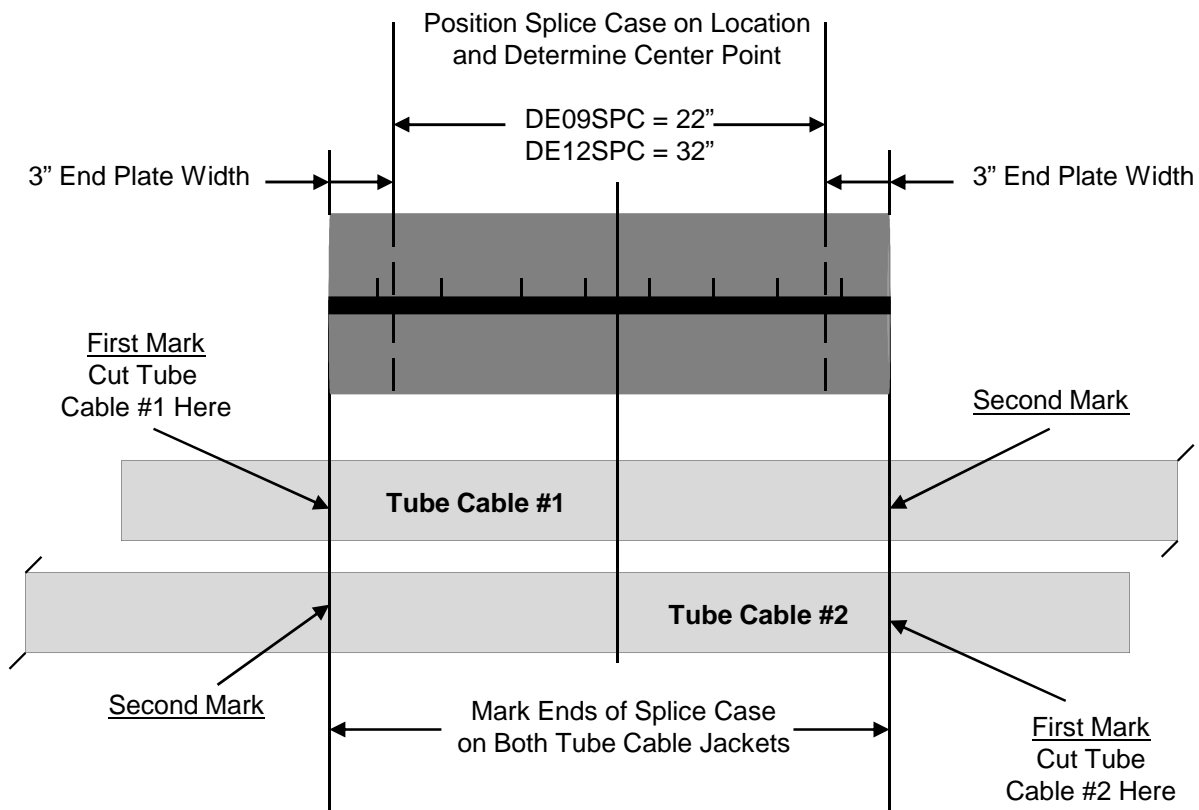

Figure 2
6.4 Mark both tube cable jackets to coincide with left and right ends of Splice Case. **See Fig. 2.**